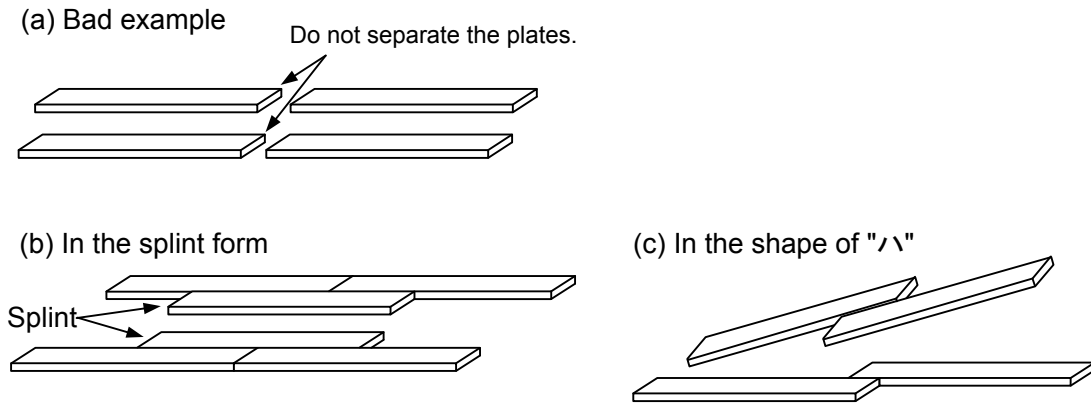

Figure 3.1-9: Layout of protection plates (protection of floor)
- (1) Check the transportation route and clear obstacles.
- (2) Give the workers clear instructions and signs for the work procedure and work method.
- (3) In a place where the floor might get scratched, install protection plates in the traveling direction. As shown in Figure 3.1-9, protection plates must be placed as splints or in the shape of "∧".